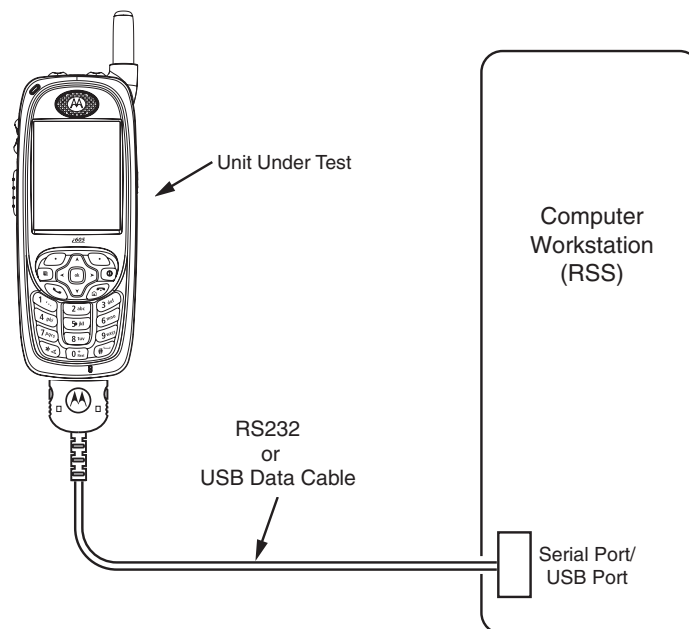

Figure 4-1. Data Cable Programming Setup
1. Set up your test equipment configuration (see Figure 4-1.).